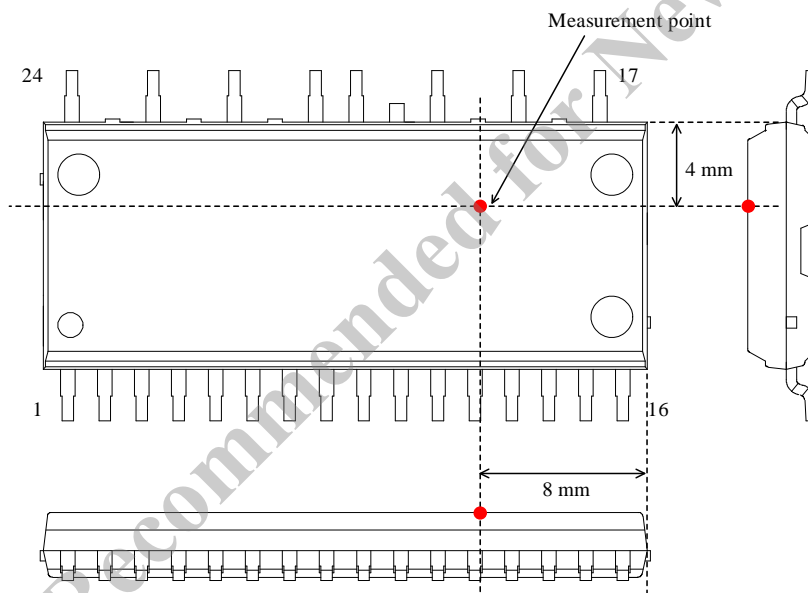

Figure3-1. Case Temperature Measurement Point
* Refers to a case temperature at the measurement point described in Figure3-1, below.